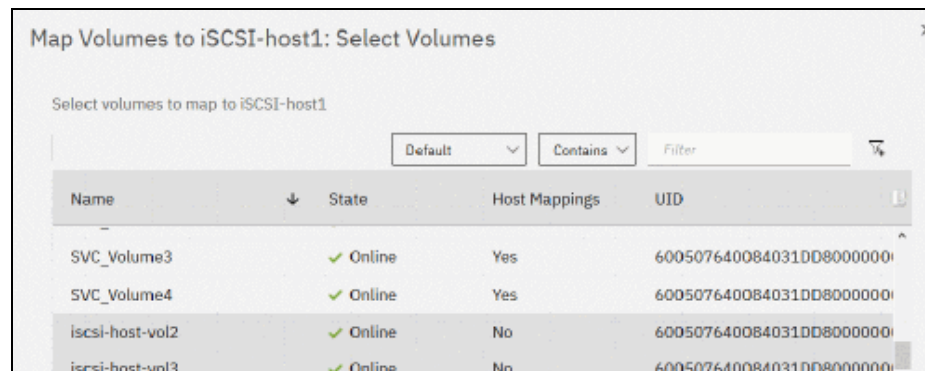

Figure 7-44 Adding private mappings
4. Click **Add Volume Mappings** to add a private mapping to the volume. A list of available volumes is presented (see Figure 7-44). Any volume that has a private mapping to this host, or has a shared mapping with a host cluster that includes this host, does not appear in the list.